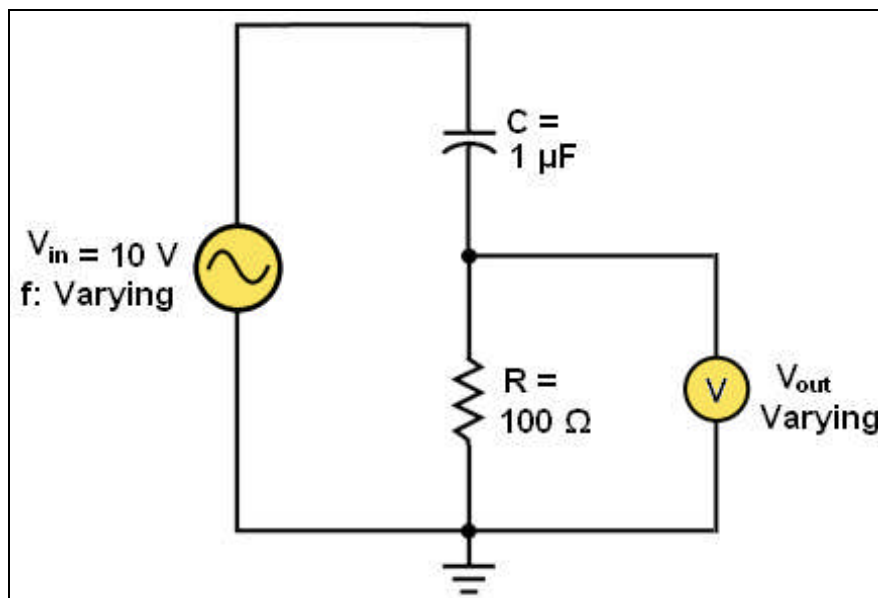

Fig. 2.3-13 Example of RC High-Pass Filter Action
Fig. 2.3-13 shows a specific series of measurements for RC high-pass filter in which the frequency starts at zero (DC) and is increased in increments up to 10 kHz. At each frequency point, the output voltage is measured (Table 2.3-2). The capacitive reactance decreases as frequency goes up, thus causing more of the total input voltage drop across the resistor.